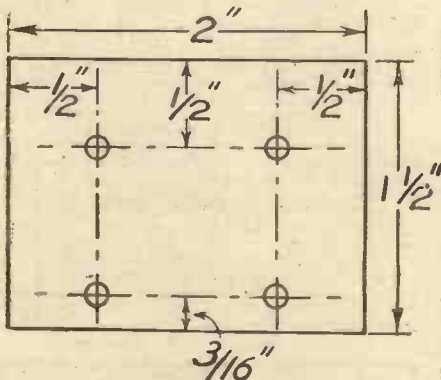

Fig. 1.—Both the terminal strips of ebonite are identical and are prepared in accordance with these dimensions.
(E) Drill terminal strips and battery lead clamping strip according to Figs. 1 and 2.